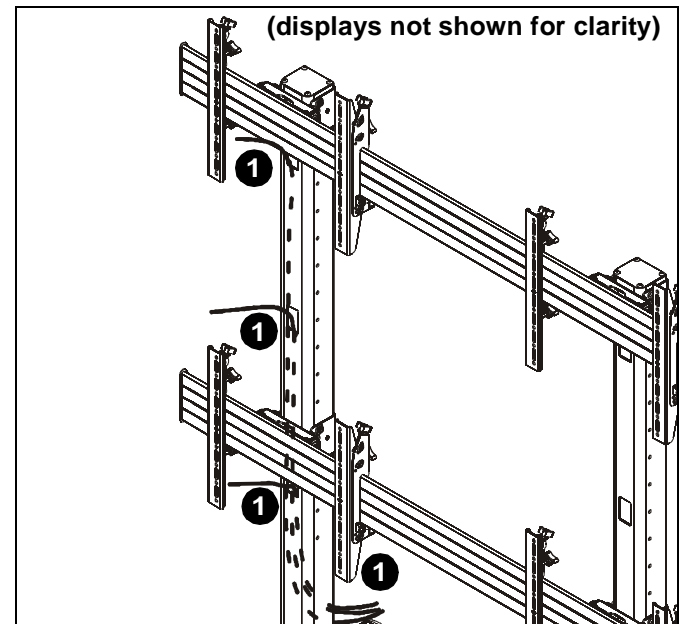

Figure 22
- Route cables from displays through nearest holes on front of columns and out through back cable management hole. (See Figure 22)